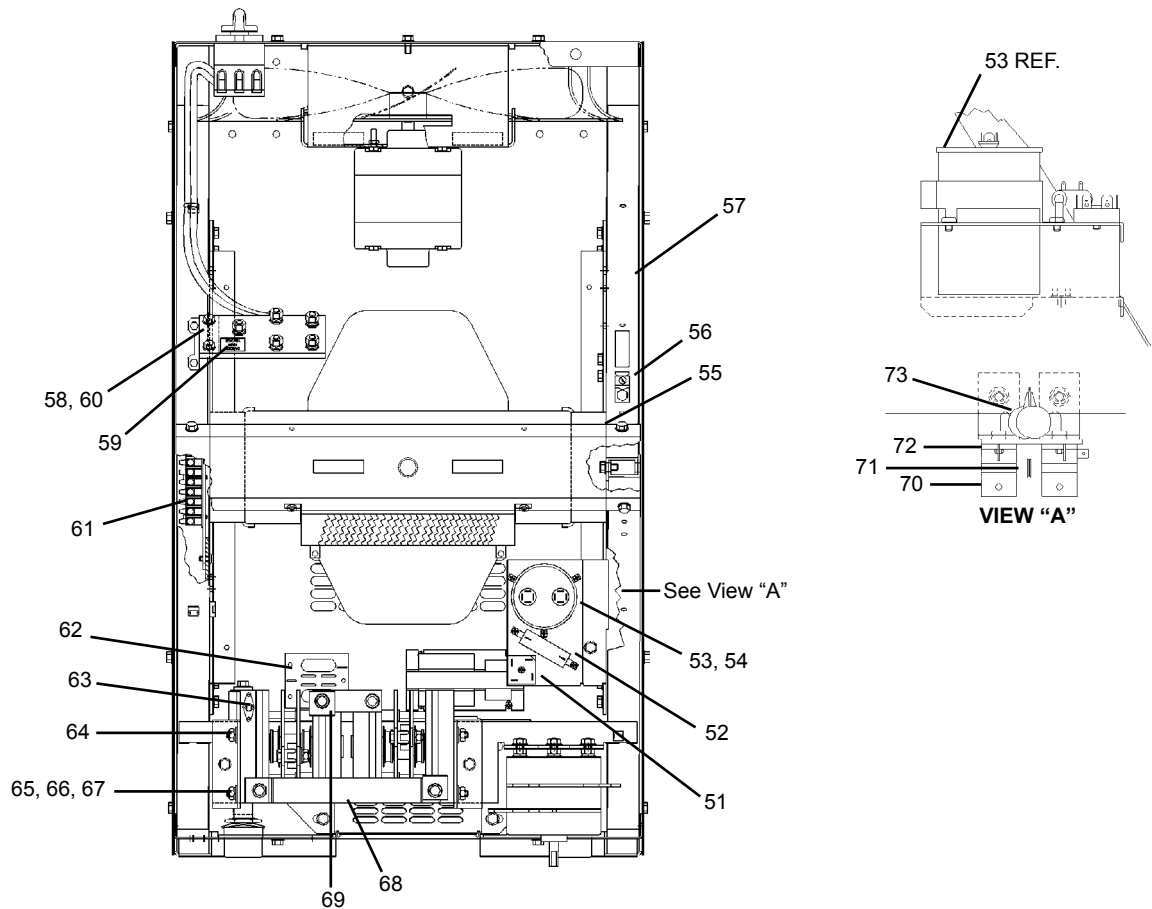

Fig. 6-3, Heliarc 252/352 Inside Top View
1. The 50Hz units originally designed for single 400V input power now have 220/400V input capability. Input Terminal Board 36218 was replaced by 32243 (No. 58 in Fig. 6-3).
4. Capacitors C9 and C10 were added (No. 67 in Fig. 6-3).
4. Spark Gap Assembly, 37246, was made available as a replacement part instead of just individual parts (Fig. 6-3).